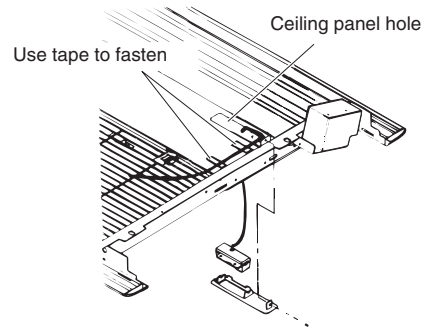
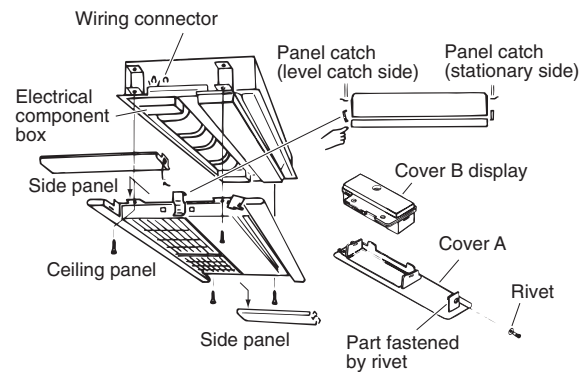

Fig. 3-16
Fig. 3-17
- (1) Remove the side panel.
- (2) Remove the ceiling panel.
- (3) Remove cover A and cover B.
- a) To remove cover A, remove the rivets from the inside of the ceiling panel. (Fig. 3-17)
- (4) Install the display onto cover A.
- (5) Pass the lead wire from the display into the ceiling panel hole. Then reattach cover A.
- (6) Form the lead wire as shown in the figure. (Fig. 3-16) At the position of the cover fastening bracket (part fastened by rivets), extend the lead wire parallel to the ceiling panel side surface, then use tape to fasten it in place.